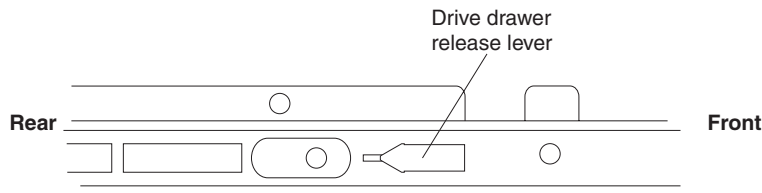

Figure 65. Drive drawer release lever on the side of the drive drawer
- b. Slide the drive drawer release lever (see Figure 65) on both sides of the drive drawer toward you, and remove the drive drawer from the enclosure.